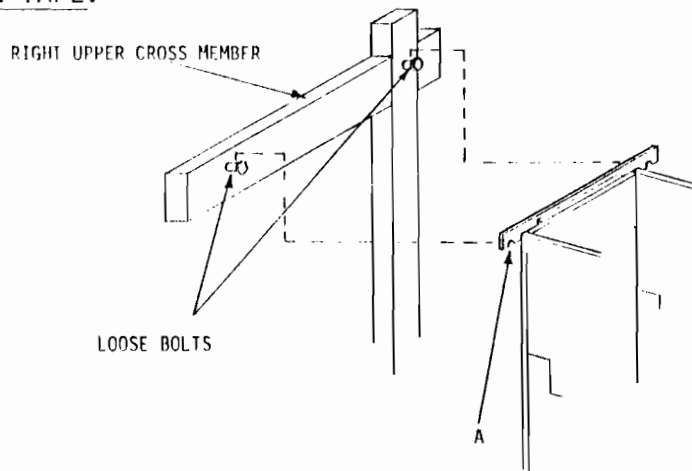

Fig.1
Loosen the two (2) bolts that are on the right upper cross-member side, without undoing them entirely. Install your Dobby by placing the "A" iron fitting on the bolts. The washers must be between the iron fitting and the bolt heads. Tighten the bolts firmly (fig. 1). DO NOT REMOVE THE ADHESIVE TAPE.